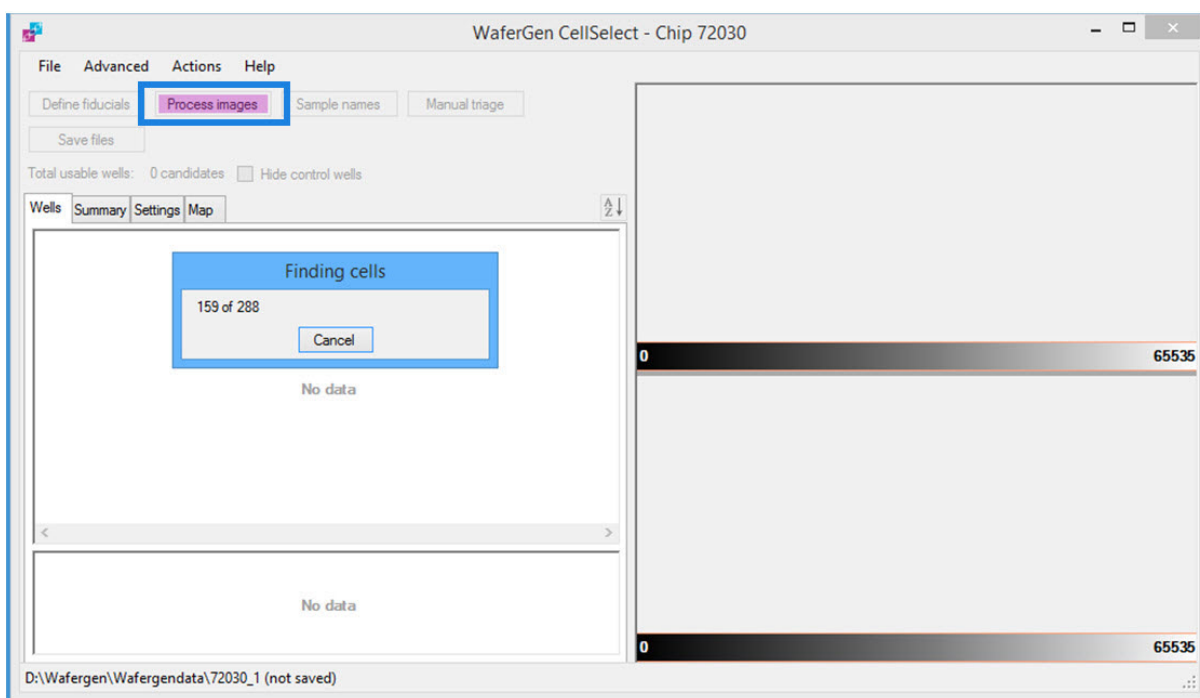

Figure 28. Having the software find cells based on parameters defined in *Settings* tab.
6. Click the [Process Images] box (Figure 28, below). The software will analyze the two sets of the 144 multi-well images taken using Hoechst and Texas Red filters, respectively, and automatically identify and select all nanowells that contain viable, single cells (i.e., “candidates”) and controls based on the parameters defined in the *Settings* tab.